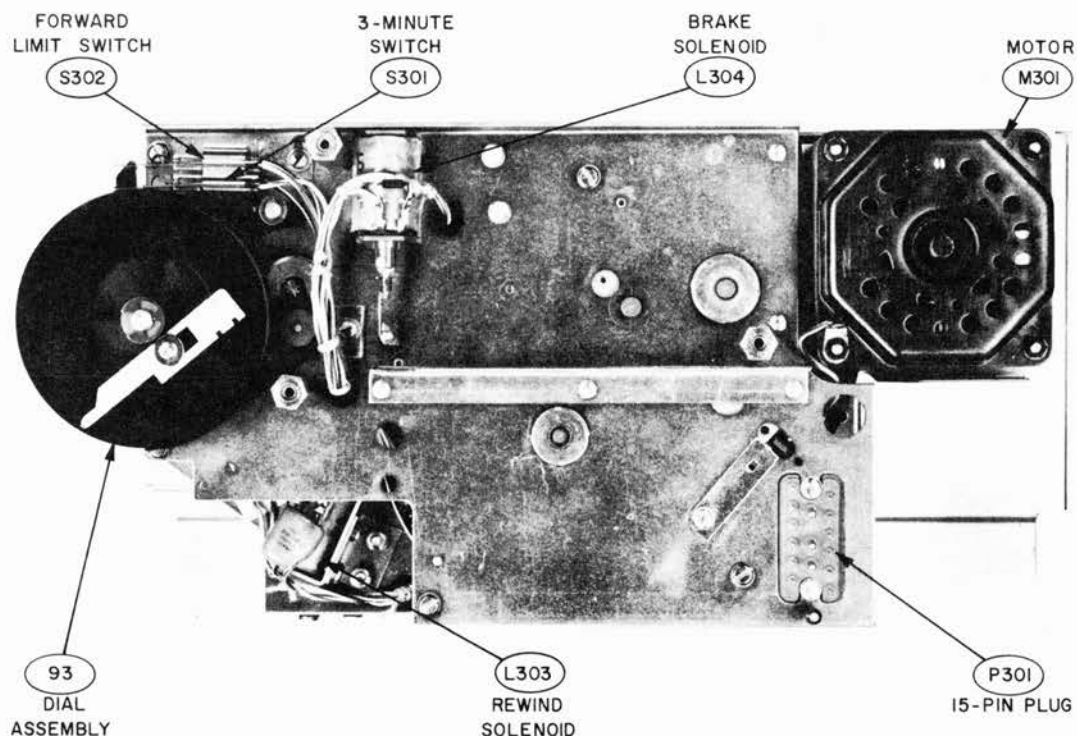
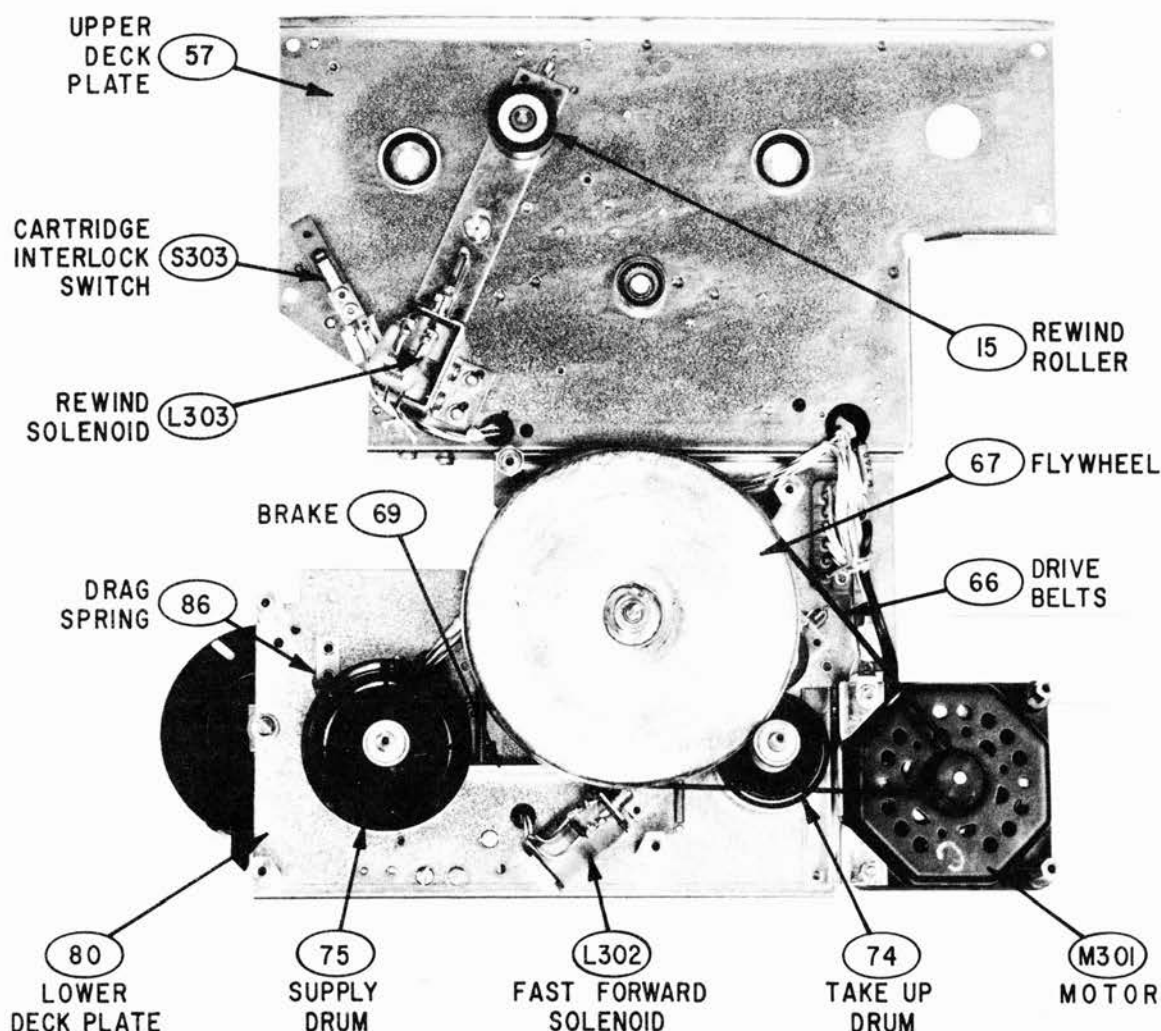

FIGURE 20 "B" DECK BOTTOM VIEW
FIGURE 21 "B" DECK DISASSEMBLED
c. Rewind Solenoid (fig. 20) and Fast Forward Solenoid (fig. 21):
- (1) Depress solenoid plunger only with sharp instrument.
- (2) Plunger should travel 1/32" before bottoming after roller contacts mating surfaces.
d. Brake Solenoid (fig. 20):
- (2) Brake should lift 1/32" from surfaces of Supply Drum and Take Up Drum (fig. 21).
- h. Carefully separate Upper and Lower Deck Plates and lay as shown in fig. 21. The Flywheel, Take Up Drum, and Supply Drum should remain with the Lower Deck Plate. Be careful not to lose the Mylar washers on each end of the supply and take up shafts.